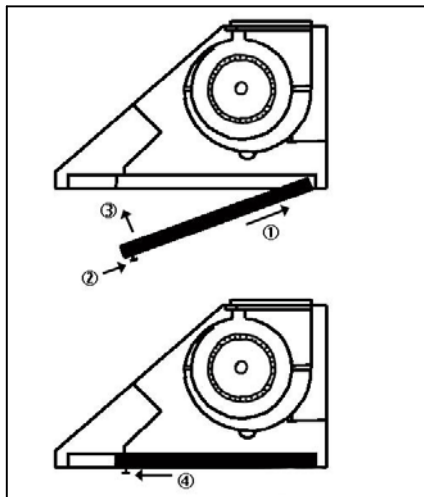

Figure 10
15. Place baffle filters underneath the hood. Refer to Figure 10.